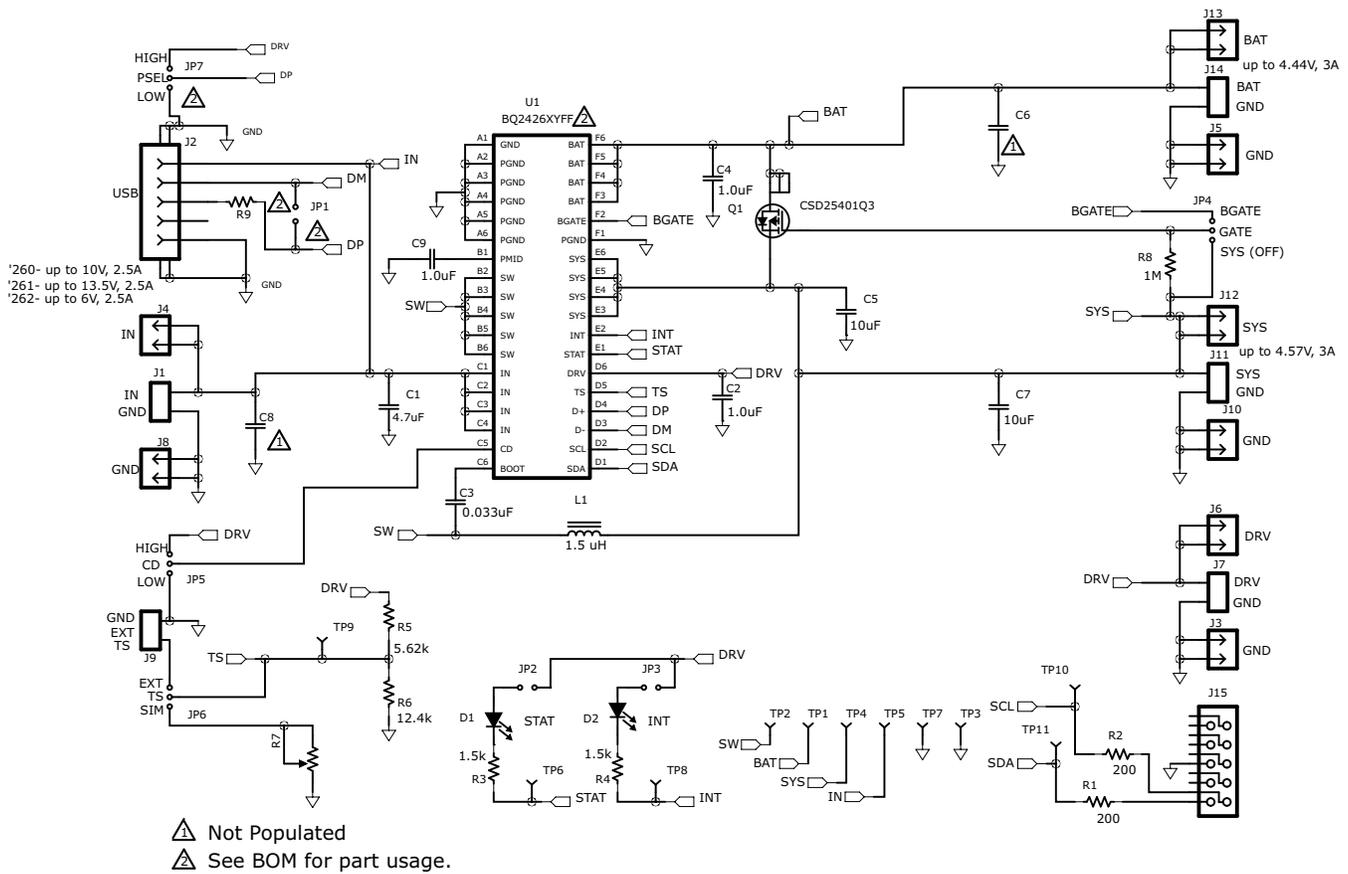

Figure 1. bq24260, bq24261, bq24262EVM Schematic
3. If BAT_Load as shown in Figure 1 is used, connect Power Supply #2 (PS #2) set to approximately 3.6 V to the input side (PS #2+/-) of BAT_Load, then turn off PS #2.